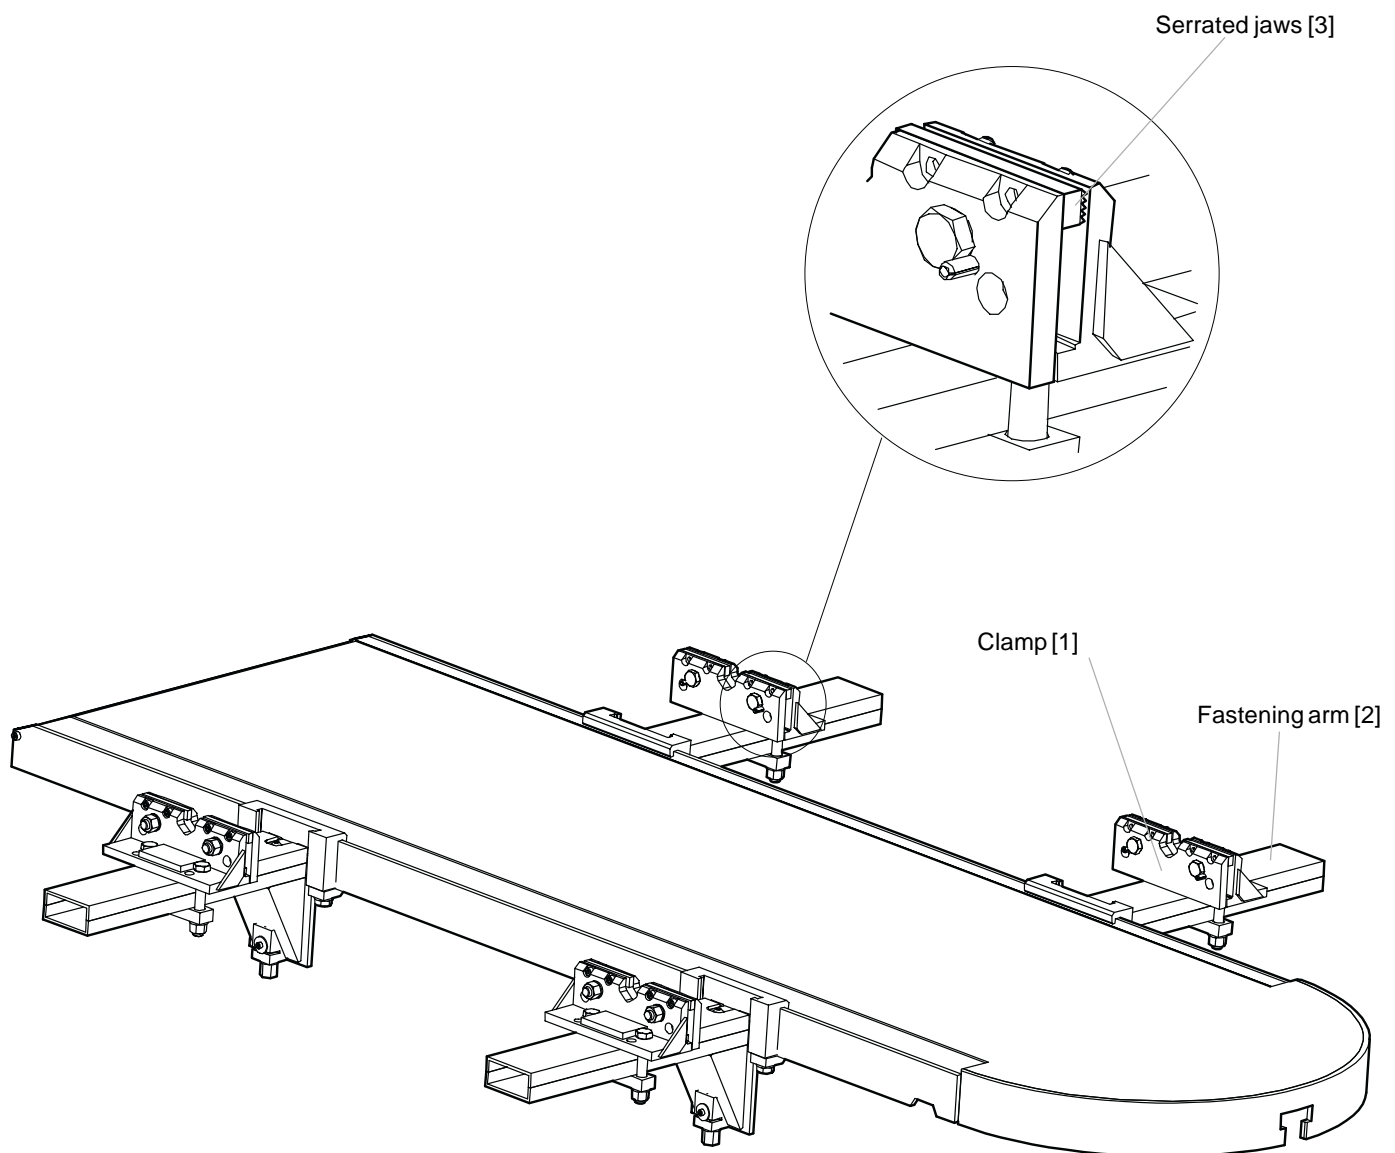

Figure 4.1 The clamps and fastening arms.
The clamps [1] are bolted to the fastening arms [2]. Refer to Figure 4.1. The rails on the fastening arms are hooked to the tracks on the long sides of the lifting platform.
- 3 Scrape the sill flange (see Figure 4.1 position [3]) clean from underseal compound and dirt so that the clamps will attach securely.**